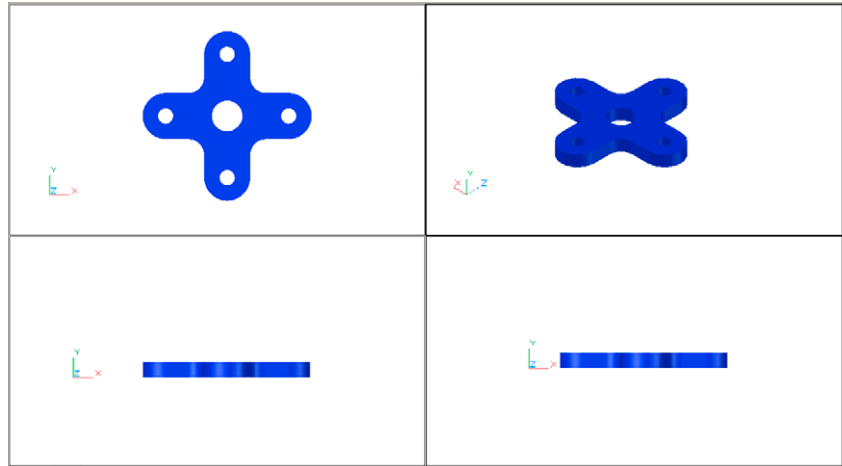

Fig. 13.8 First example – the four viewports after **Extrude** and **Subtract**
5. With **Subtract** from the **Home/Solid Editing** panel, subtract the holes from the plate (Fig. 13.8).